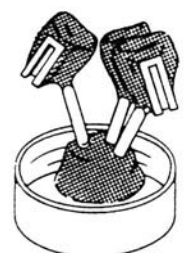

Fig. 7
10. Sprue so that the alloy will not flow directly towards the attachment. Place the pattern to provide easy access to the female when investing (Fig. 7). A direct spruing technique can be used for some single units, but an indirect technique will give you better castings.